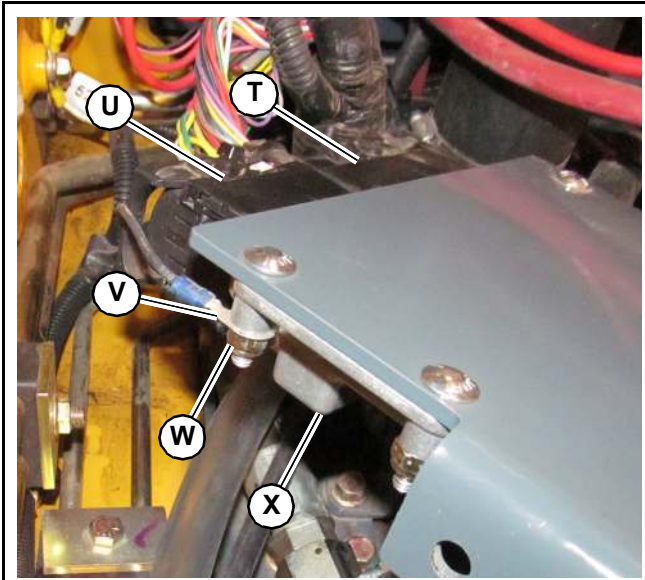

Fig. 365 – Disconnect ECU Wiring Connectors
27. Disconnect wiring connectors (T and U, Fig. 365) from ECU (X).